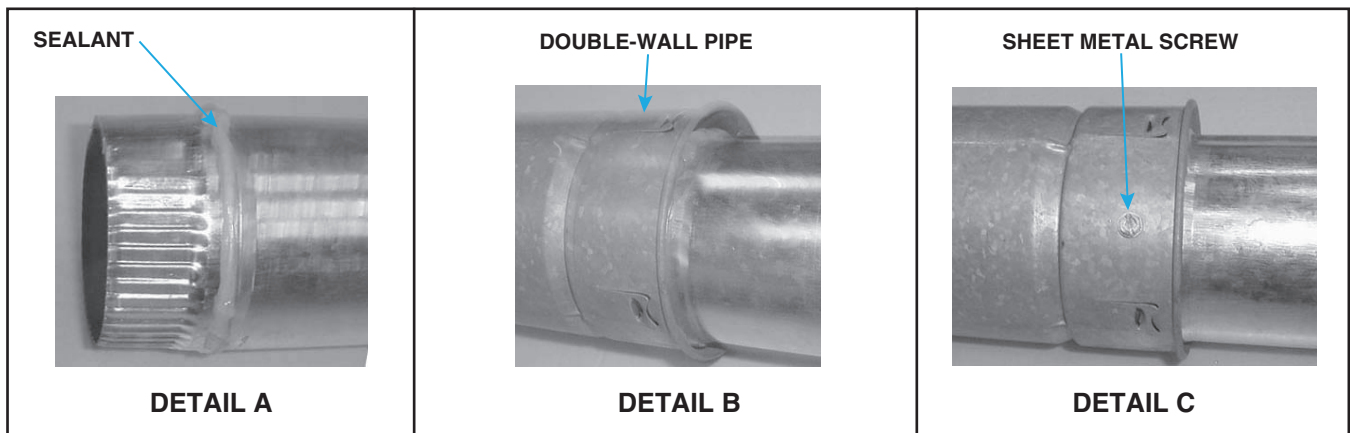

Figure 19. Connecting Double-Wall (Type B) Pipe to Single-Wall or Category III Vent Pipe
- a. Apply continual 1/4-inch bead of silicone sealant (see **Figure 19**, DETAIL A) around circumference of pipe.
- b. Before sealant has any time to dry, insert pipe with sealant into inner wall of double-wall pipe (see **Figure 19**, DETAIL B) until bead of sealant contacts inner pipe to create sealed joint.
- c. Drill three small holes—spaced equally around double-wall pipe—below sealant ring (see **Figure 19**, DETAIL C) and insert 3/4-inch-long sheet metal screws to secure joint. Do not overtighten screws.